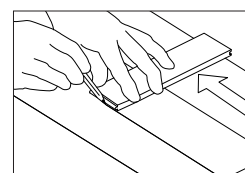

Figure 13
- Sacrificial board:** If the wall is not straight, scribe the first board (Figure 13) as necessary to maintain alignment with the chalk line. Install a sacrificial board (with a straight edge) using the appropriate fasteners for the subfloor. If a board is used for the starter row make certain the groove faces the wall.
- Wedges:** Align the first row with the wall using wedges to maintain a 1/2" (13 mm) expansion in place and to stabilize the product. If the wall is not straight, scribe the first board (Figure 13) as necessary to maintain alignment with the chalk line.